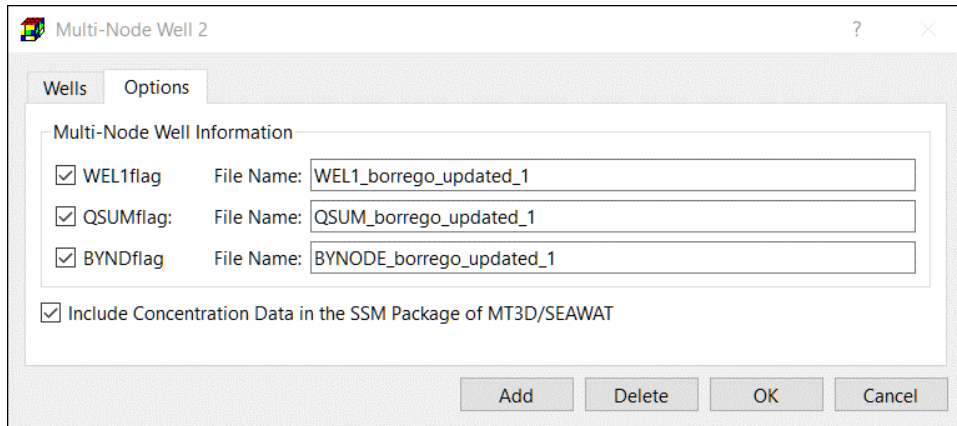

Figure 76. The Options Tab of the Multi-Node Well 2 dialog box
- **Options Tab (Figure 76):**
- **QSUMflag:** If this box is checked, a file with the specified **File Name** will be created. This file stores the flow rates from each multi-node well for each time step. The QSUM file will include a table of values for all multi-node wells for all times that consists of the sum of all nodal inflows ($Q < 0$) from the aquifer to each well (L^3/T), the sum of all nodal outflows (discharges; $Q > 0$) to the aquifer from each well (L^3/T), the net flow at the wellhead Q_{net} (L^3/T), and the calculated head in the well (L). The modified versions of GSFLOW and MODFLOW-NWT (that are distributed with PM) added two additional columns, Q_{des} and $Q_{net}-Q_{des}$, to the QSUM file. Q_{des} is the user-specified desired pumping rate (L^3/T). These two columns facilitate the comparison of the simulated and specified pumping rates.